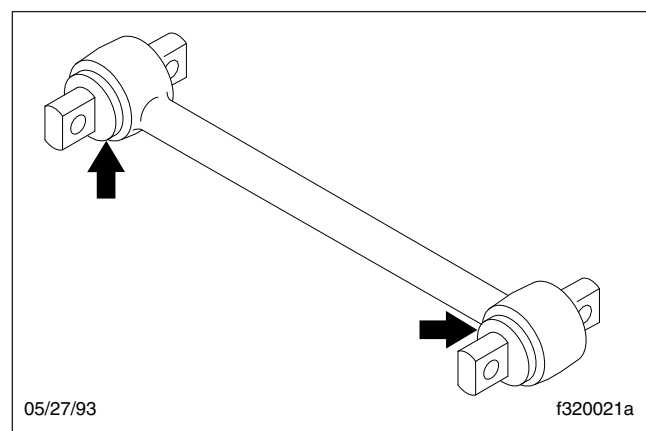

Fig. 3, Torque Arm Bushings
5. Inspect the rubber bushing ends. See **Fig. 3**. Replace the torque arm for any of the following reasons: